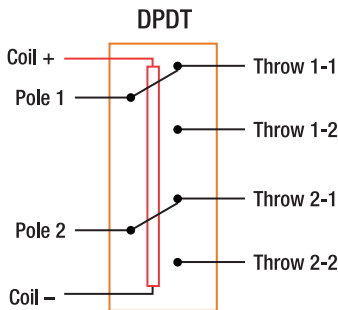

Figure 2-5. This DPDT relay has two poles, and each pole has two contacts (a double three-way switch).
- **Double Pole, Double Throw (DPDT):** This type of relay uses one coil to operate two independent DPDT switches at the same time (see Figure 2-5). This relay has eight total contacts and can be configured as an H-bridge circuit, which is discussed in Chapter 3 (for controlling the direction of a load).